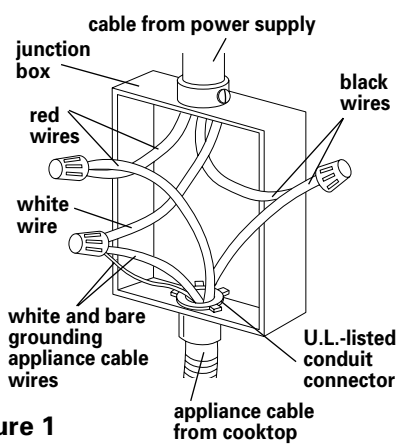

Figure 1
9. Connect the bare and white appliance cable wires to the neutral (white) wire in junction box. See Figure 1.